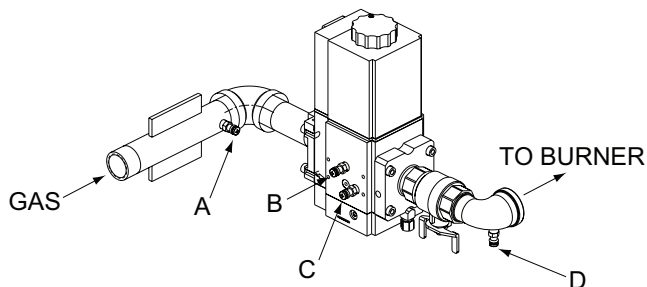

Fig. 45: Gas Pressure Measurement Location
2. Attach (1) 12" scale manometer to an upstream bleedle valve on the gas supply pipe to the heater (Measure point "A" in Fig. 45).
3. Attach (1) 24" scale manometer to the manifold pressure tap located on the valve (Measure point "D" in Fig. 45).
4. Attach (1) 12" scale manometer near the fan-proving switch. Pull black cap from air pressure switch tee and connect the manometer. NOTE: Retain caps for reinstallation later.
1. Check manifold gas pressure at the gas valve outlet pressure tap (connection "D" in Fig. 45). This pressure should read per the values in Table V for natural and propane gas.